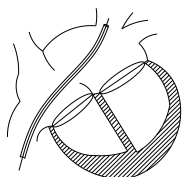

Figure 5. Illustration of delivering sheath into heart
- Flush the dilator and sheath with saline solution, and then insert the dilator into the sheath, tighten the clamp nut to ensure the dilator fasten with sheath securely. Advance the sheath with dilator over the exchange guidewire through the septal defect into the left superior pulmonary vein. Remove the exchange guidewire and dilator (Refer to Figure 5).